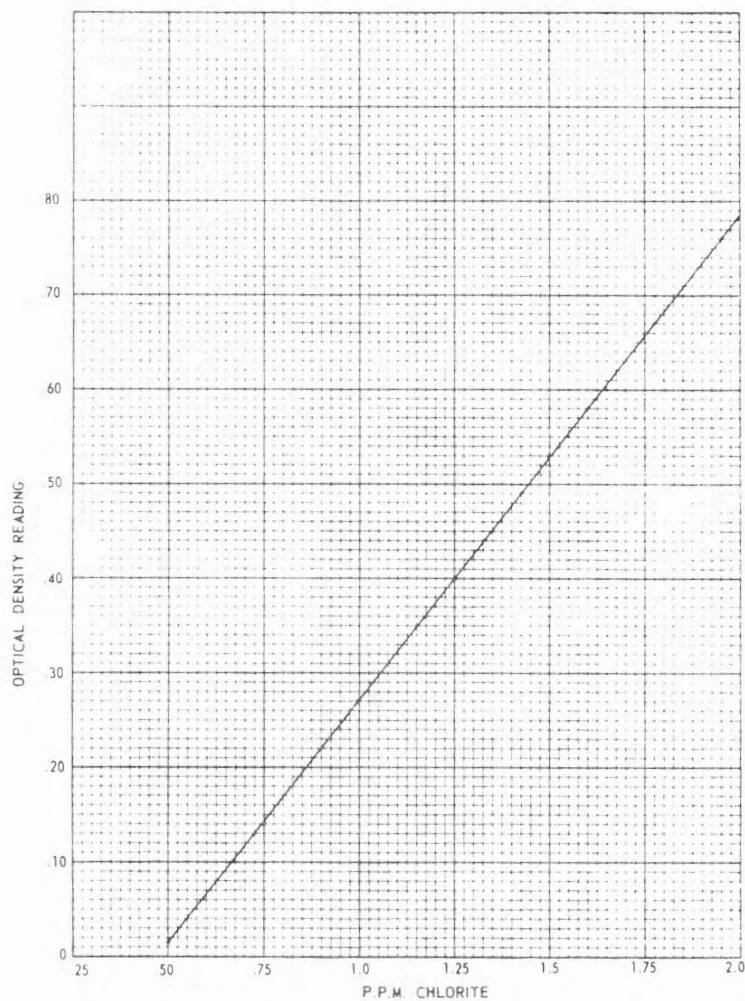

FIGURE 1
6. Determine ppm chlorite of the diluted water sample from the graph (Figure 1).